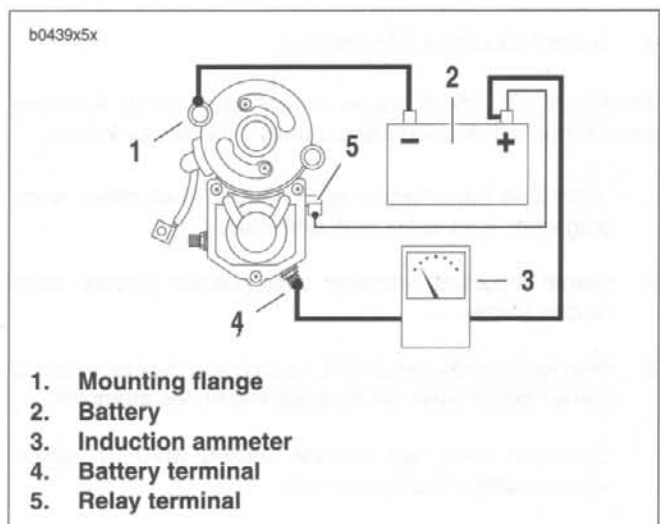

Figure 5-11. Free Running Current Draw Test
2. See Figure 5-11. Attach one heavy jumper cable (6 gauge minimum).
- a. To the starter mounting flange (1).
- a. To the positive (+) terminal of the battery (2).
- b. To an inductive ammeter (3). Continue on to the battery terminal (4) on the starter solenoid.
- b. To the solenoid relay terminal (5).